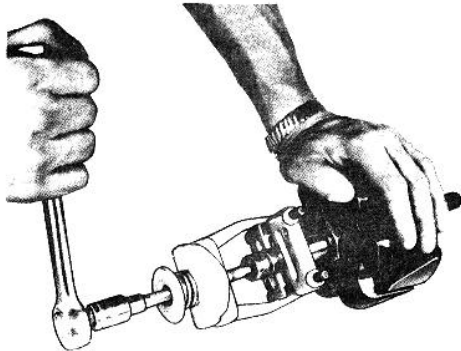

FIG. 21
- Using a suitable puller, remove the slip ring assembly. (See Figure 21.)
The separator and puller shown in Figures 21 and 22 can be obtained through the Snap-On Tool Co. CG 949 Bearing Separator CG 240 Puller.